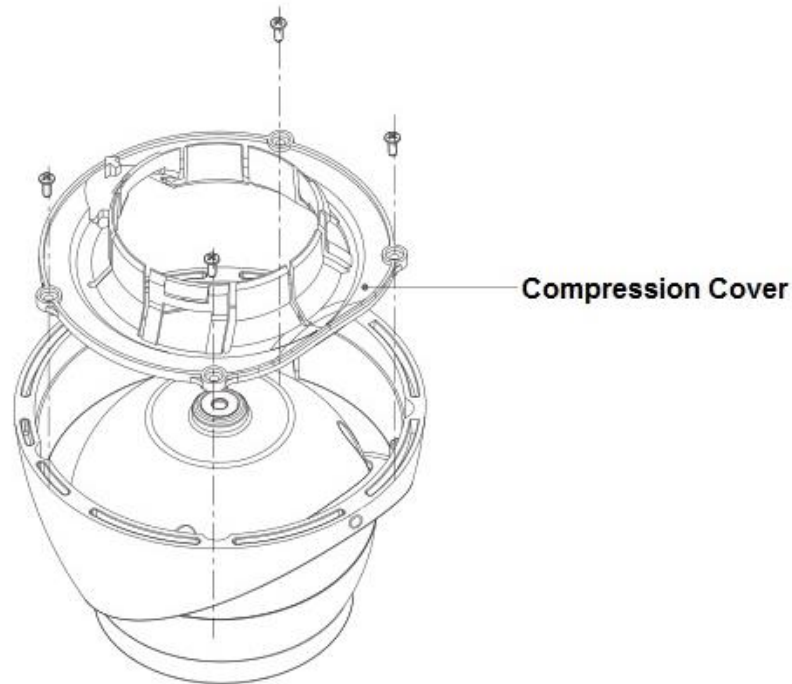

Figure 2-2
1. Use the cross screwdriver to loosen four screws on the dome pedestal, take down the compression cover and take out the dome body. Please refer to figure 2-2 for more details.